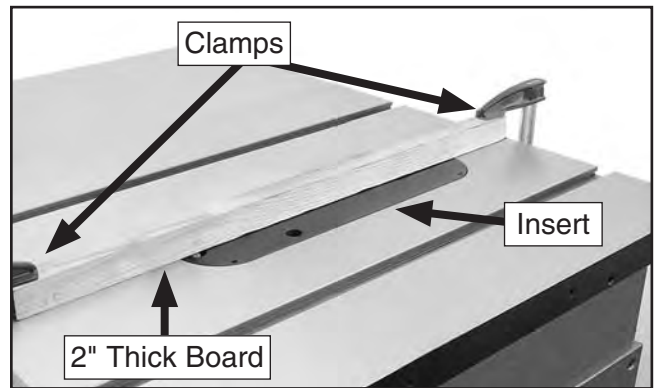

Figure 58. Securing insert with board and clamps.
5. Center a board at least 2" thick and equal to the length of the table over the rear opening of the insert, then secure it with clamps at both ends, as shown in **Figure 58**. This will provide extra support for the insert and reduce tear out when cutting.